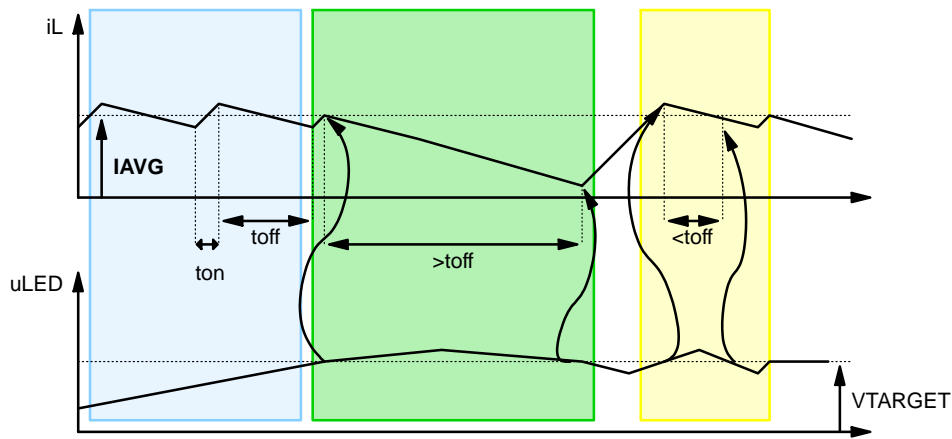

Figure 34. Buck Voltage Mode Regulation Principle
When voltage sensed by LEDCTRLx pin rises above comparator threshold, PWM regulator immediately interrupts current TON phase and starts TOFF phase and skips following TON phases until voltage drops below set point threshold (green and yellow sections on Figure 34).
- Top switch was turned off longer time than settings of TOFF. In this case top switch is immediately turned on and PWM generation starts again (green section on Figure 34)
- Top switch was turned off shorter time than settings of TOFF. In this case top switch remains off until full TOFF time expires and then is turned on (yellow section on Figure 34).